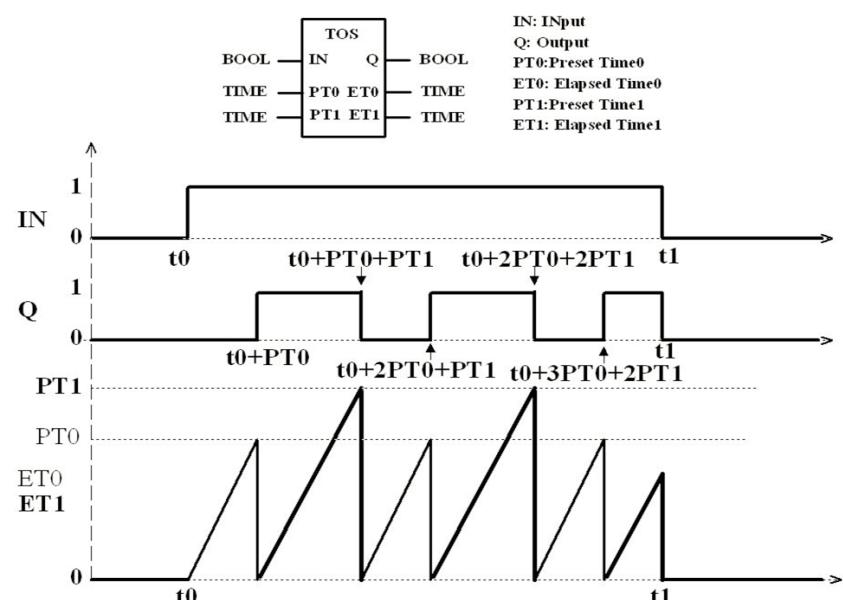

Figure 3: The symbol and timing diagram of the oscillator timer (TOS)
The symbol and timing diagram of the oscillator timer (TOS) are both shown in **Figure 3**. PT0 (respectively PT1) defines the false (OFF) time {respectively true (ON) time} of the pulse. As the input signal IN goes and remains true (ON – 1), the OFF timing function is started and, therefore, the elapsed time ET0 is increased. When the elapsed time ET0 reaches the time specified by the preset time input PT0, the output Q goes true (ON – 1) and ET0 is cleared. At the same time, as long as the input signal IN remains true (ON – 1), the ON timing function is started and, therefore, the elapsed time ET1 is increased. When the